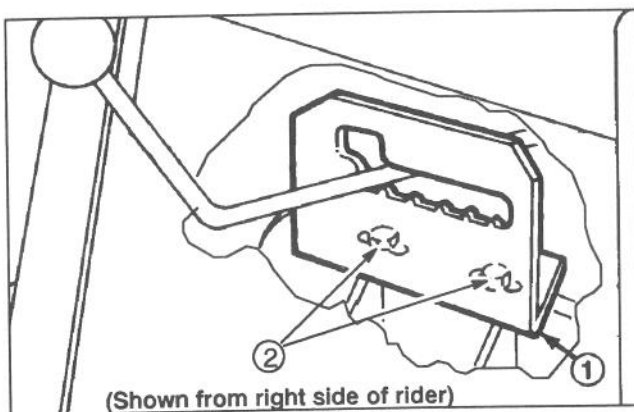

Figure 31
2. Loosen (2) capscrews mounting the gear shift guide to the transmission (Fig. 31).